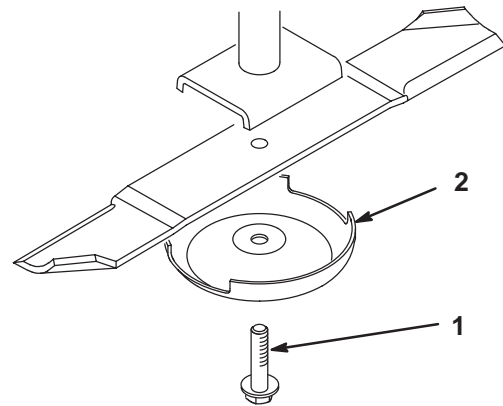

Figure 35
2. Grasp the end of the blade using a rag or thickly padded glove. Remove the blade bolt, anti-scalp cup, and blade from the spindle shaft (Fig. 35).